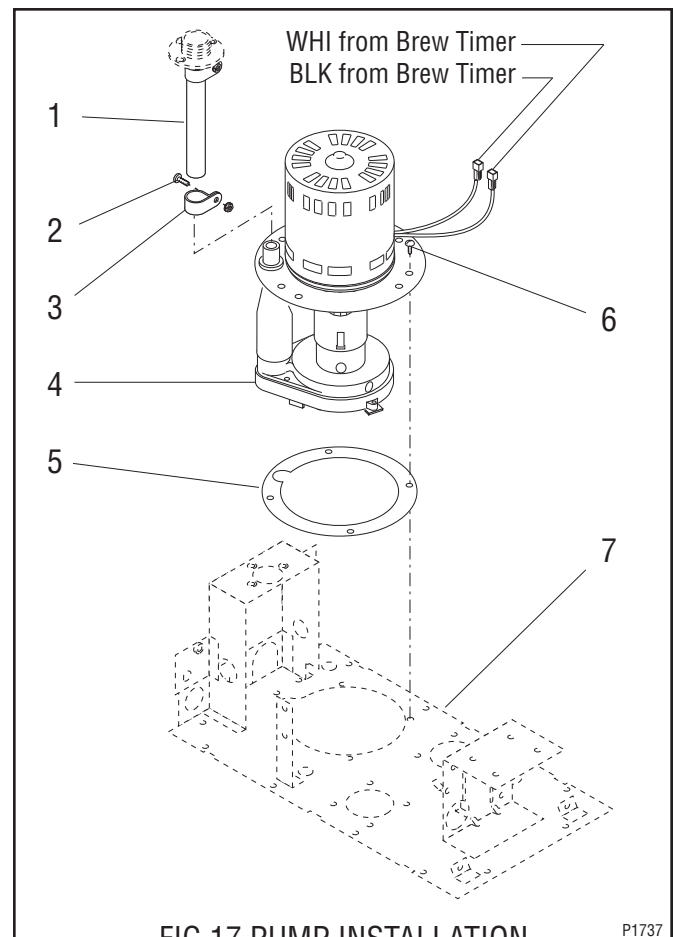

FIG.17 PUMP INSTALLATION
Removal and Replacement (Refer to Fig. 17):
2. Loosen the #8-32 screw (2) securing the clamp (3) on the fill tube (1) and slide the clamp (3) up the fill tube (1).
3. Disengage the fill tube (1) from the pump assembly (4).
4. Remove the four #8-32 screws (6) securing the pump assembly (4) to the component bracket (7).
5. Remove pump assembly (4).
6. Remove pump gasket (5) and inspect, replace if necessary.
7. Position gasket (5) on component bracket (7).
8. Install new pump assembly (4) on component bracket (7) and secure with four #8-32 screws (6).
9. Install fill tube (1) on pump assembly (4).
10. Slide clamp (3) down into position on the fill tube (1) and tighten screw (2).
11. Refer to Fig. 17 and reconnect the wires.